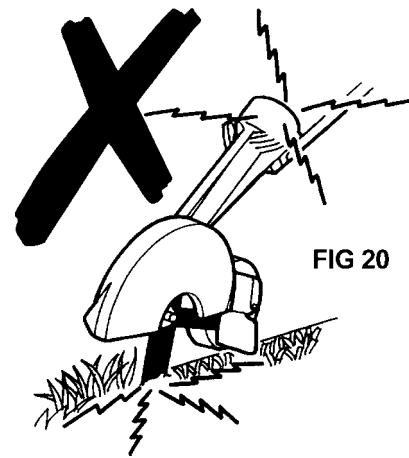

FIG 20
- If blade jams or stops in the ground (Fig. 20), lower handles or release trigger and recommence. Engine speed should be full throttle under load with blade rotating.